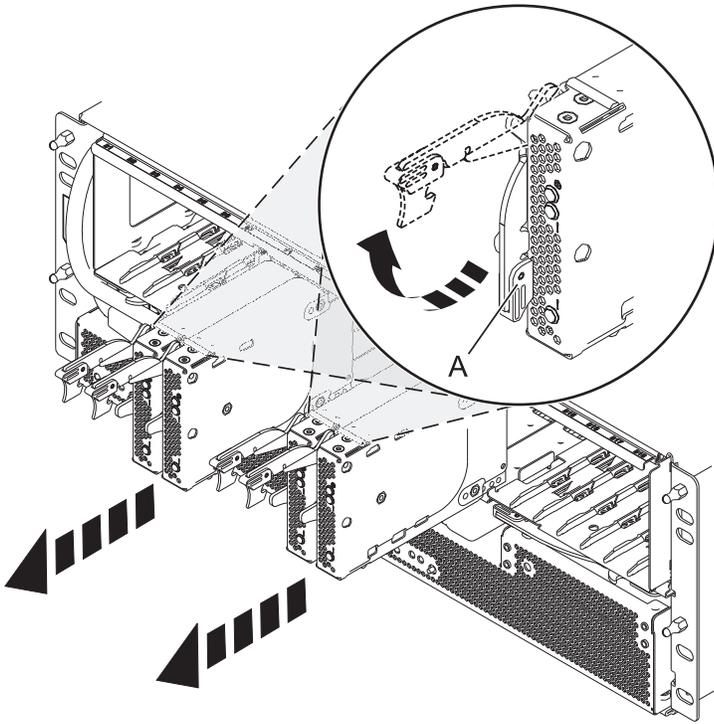

Figure 92. Removing the port card from the backplane
4. Remove the port cards and fillers as shown in Figure 92 on page 130.
- a. Hold the end of the latching handle (A) and pull it upward to unlock the port card.